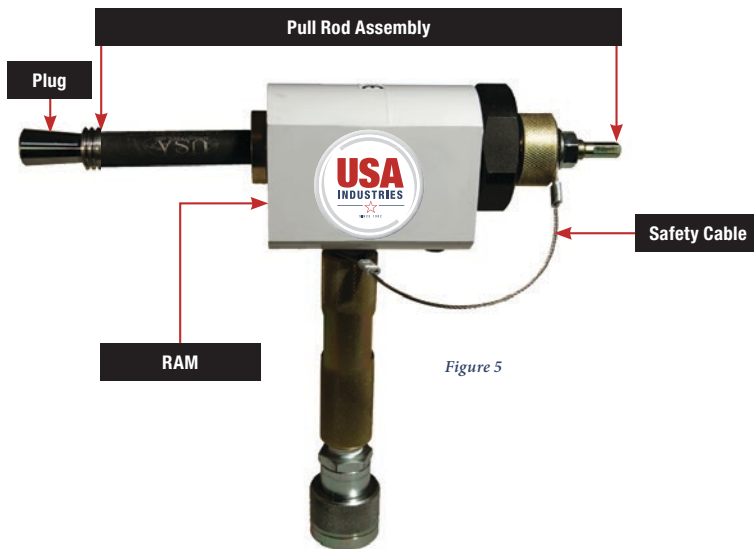

Figure 5
- d) Ensure the *Ram* (Figure 5) is fully retracted.
- e) Insert the *Pull Rod* assembled with the *Expansion Nut* and *Safety Cable Nut* into the *Ram* from the side of the hydraulic *Ram* that has the large hex shaped nut attached to it as shown in Figure 5.
- l) Insert the *Plug* into the tube of the heat exchanger being plugged, making sure that the *Ring* (Figure 5) is located within the front and rear face of the tubesheet. If the tubesheet thickness allows, the *Plug* should be installed at a depth of approximately 1” from the top of the *Ring* to the edge of the tubesheet so the installed plugs *Pin* (see Figure 5) does not protrude beyond the face of the tubesheet.
- m) Actuate the *Pump* while holding the *Ram* steady and perpendicular to the tubesheet. **DO NOT STAND DIRECTLY BEHIND, HAVE ANY BODY PARTS BEHIND, OR HAVE ANYONE ELSE STANDING BEHIND THE PULL ROD ASSEMBLY.** The *Piston* in the *Ram* will extract against the *Expansion Nut* to install the *Plug*. When fully installed the *Breakaway Stud* (see Figure 5) of the *Plug* will break at a pre-engineered tensile load that corresponds to the size of the *Plug*. Begin the procedure again to plug another tube.
- n) If the *Stud* has not broken and the gauge on the *Pump* has exceeded 7000 psi, then release the *Pump* pressure and allow the *Ram's Piston* to fully retract and re-tighten the *Expansion Nut* to take another stroke. When this happens it usually means that the *Pin* has more length to travel and the *Piston* was fully extended bottoming out the hydraulic cylinder. If the *Stud* has not broken after the second full stroke, stop the installation and call USA Industries at (800) 456-8721.